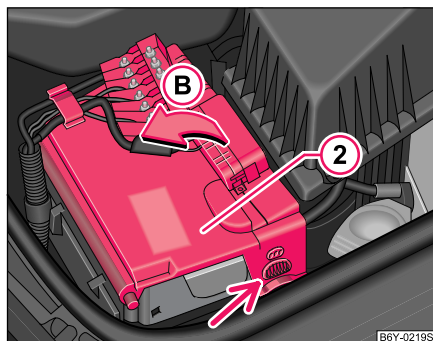

Fig. 132 The battery: Open up the cover
- Pull off the catch on the side of the battery cover **2** and swing the battery cover in the direction **B** ⇒ fig. 132.